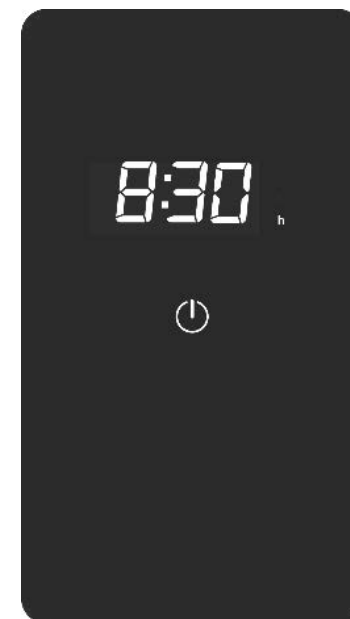

Fig. 15 Remaining time
8. The display now shows the remaining time until the sauna starts (hh:mm) – see Fig. 15.